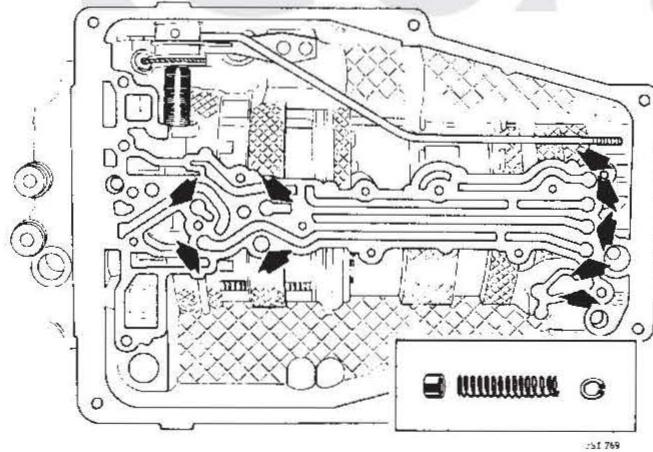

FIG 3
5. Check that the oil seals, springs and circlips are correctly located (Fig 3). Do not remove but carefully clean the mating face with a lint-free cloth.